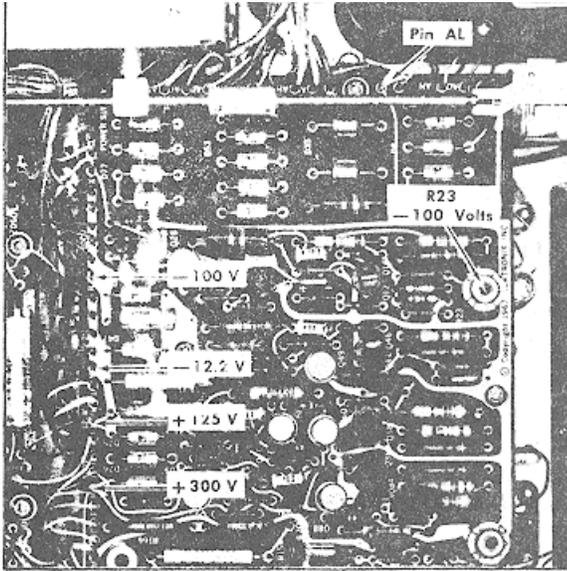

Fig. 5-2. Locations of power supply test points and R23, -100 Volts adjustment.
- b. Connect the precision DC voltmeter between the -100-volt test point and ground (see Fig. 5-2).
- c. ADJUST—R23, -100 Volts (Fig. 5-2) for exactly -100 volts.
- a. Connect the precision DC voltmeter between each low-voltage test point and chassis ground. See Fig. 5-2 for test point locations.
a. Connect the precision DC voltmeter between pin AL of the power supply board (Fig. 5-2; this is connected to center terminal of the INTENSITY potentiometer) and ground.